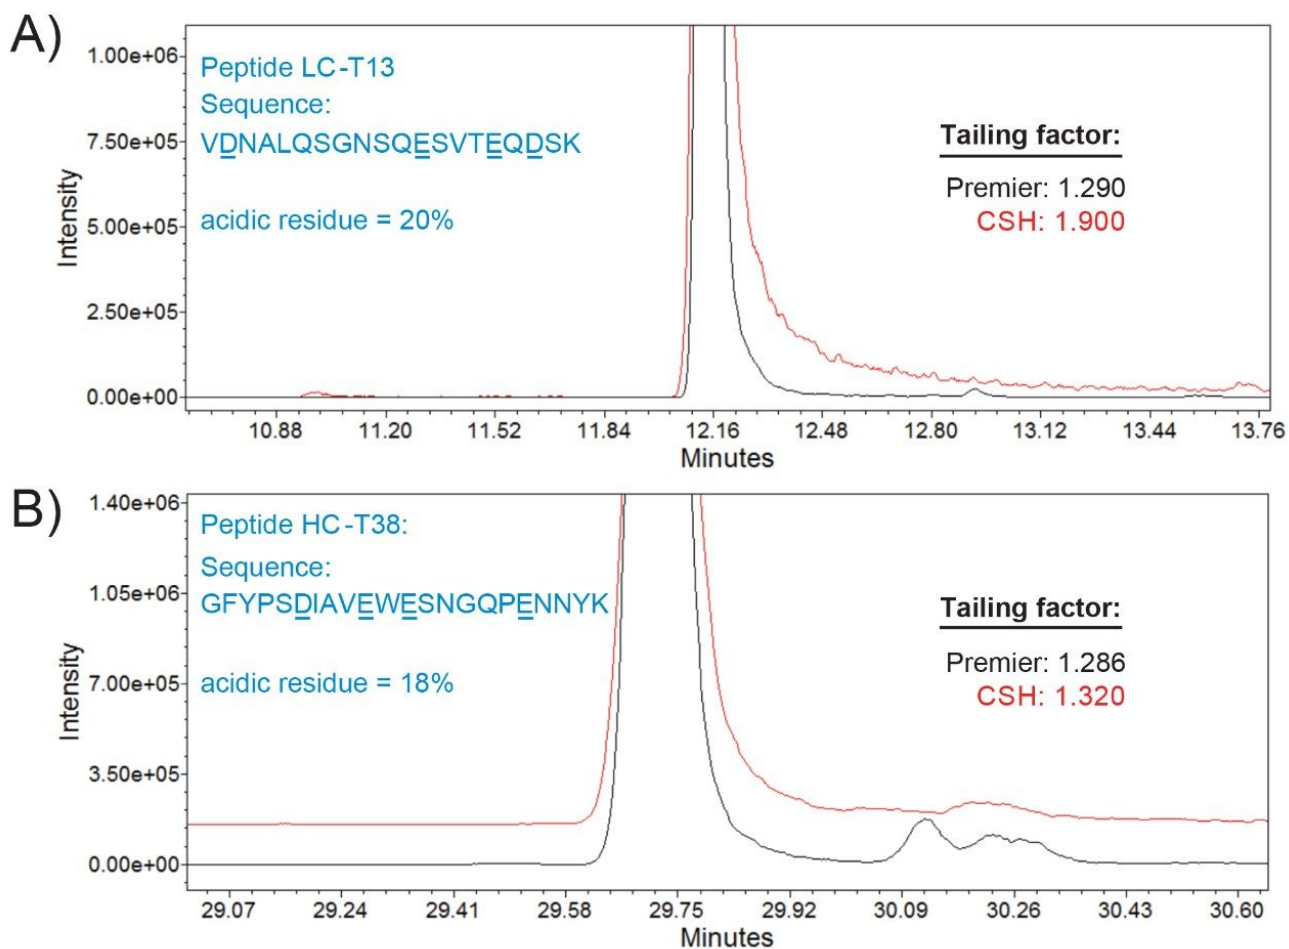

Figure 4: Evaluation of MaxPeak HPS Technology as a function of peak tailing for acidic amino acid containing peptide fragments A) LC-T13 and B) HC-T38.
In addition to the Arc Premier System's ability to deliver consistent and reliable results, users have the added benefit of MaxPeak High-Performance Surfaces (HPS) Technology to reduce undesired analyte/surface interaction. Waters MaxPeak Premier columns with MaxPeak HPS Technology provide a robust and effective means to mitigate undesirable analyte/surface interaction. This is demonstrated in Figure 4 in terms of peak tailing factor for two acidic peptides, light chain (LC)-T13 and heavy chain (HC)-T38. As shown in Figure 4A, the LC-T13 peptide exhibited over a 60% reduction in peaks tailing (1.29 vs. 1.90) when using the XSelect™ Premier Peptide C₁₈ Column compared to the conventional stainless-steel column. The improved performance observed when using the MaxPeak HPS Technology is critical when trying to resolve impurities that are sensitive to analyte/surface adsorption. This is demonstrated for the HC-T38 peptide (PENNY peptide) which exhibited substantial tailing with the stainless-steel column that obscures the low-abundance impurity peaks eluting after it. When using the XSelect MaxPeak Premier Peptide C₁₈ Column, these low-abundance peaks, identified to be deamidated forms of HC-T38, are both detectable and quantifiable. These results demonstrate the impact high-quality separations can have on peptide mapping assays and the value MaxPeak HPS Technology offers customers. The combination of system performance and system bio-inertness will lead to more robust assays that can be readily transferred and validated with increased confidence in data interpretation and less time spent at the bench.